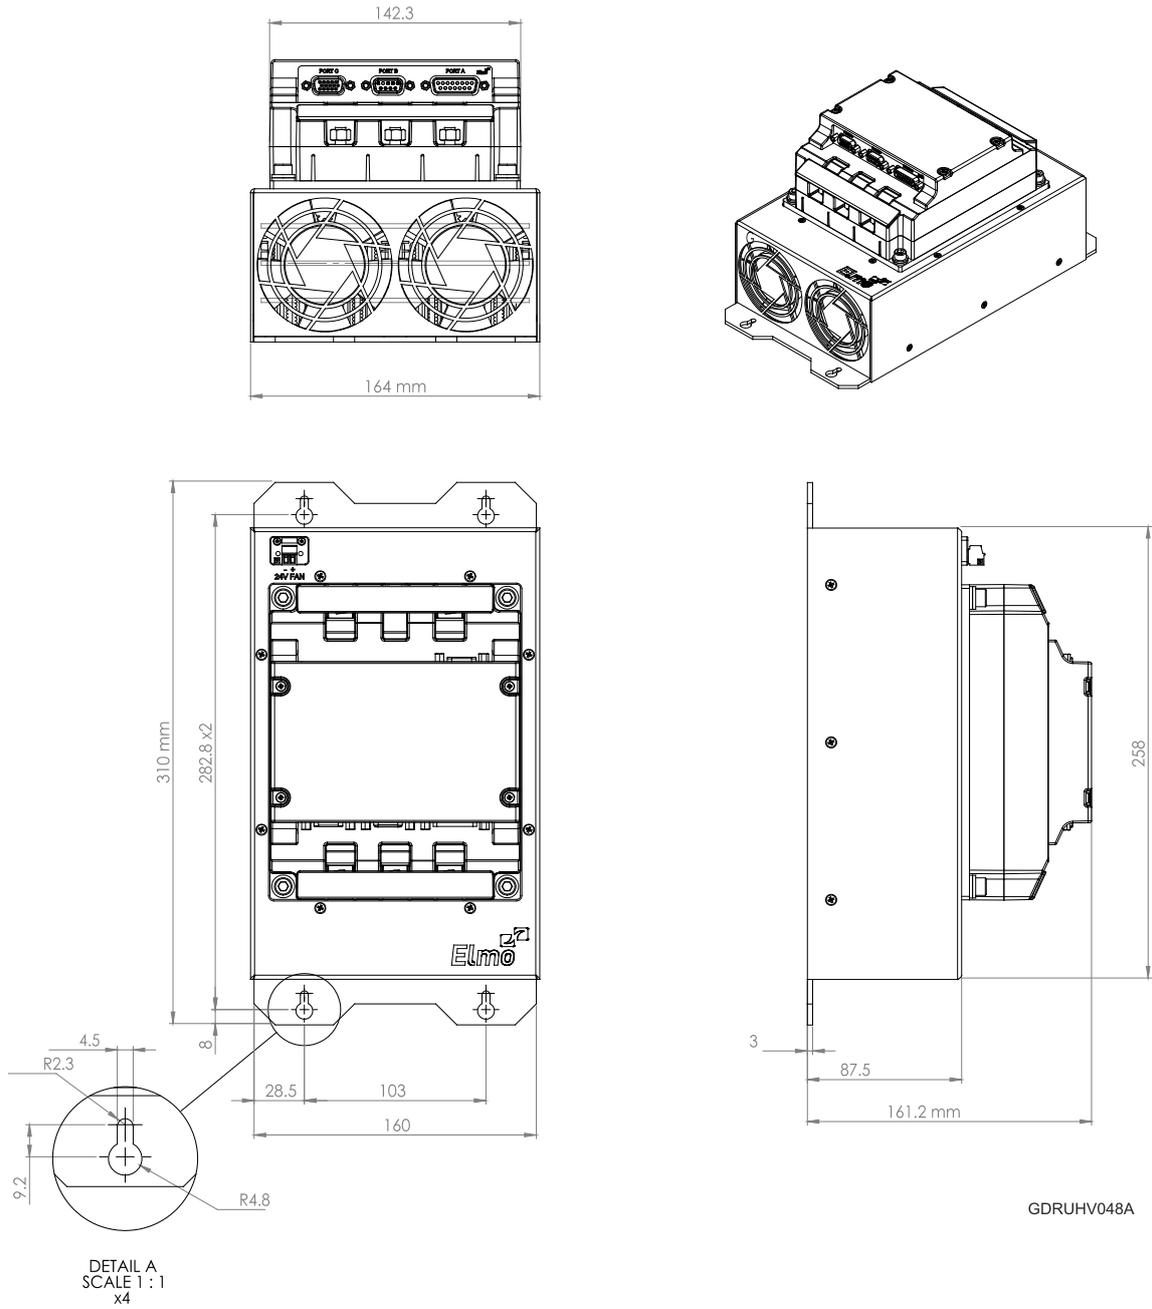

Figure 1: Drum, Heat Sink, and combined Dimensions
7. Install the Drum and Heat Sink to the wall using four screws (max 4.5 mm diameter, refer to Figure 1) and washers. Make sure that there is a space of 10 cm, between the top of the Heat Sink and any other electrical part or otherwise. Similarly, a space of 10 cm is required between the lower fans and any other electrical part or otherwise.